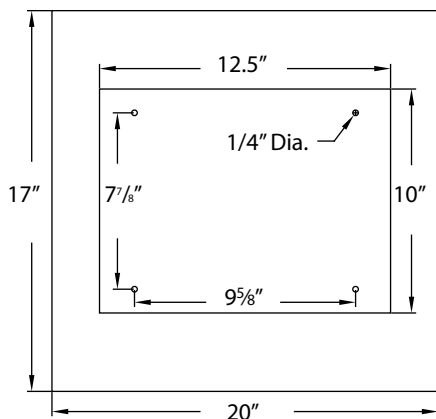

Figure 3 – Base dimension and required space.
Refer to Figure 3.
- Figure 3 shows the base dimensions, mounting holes and required space.